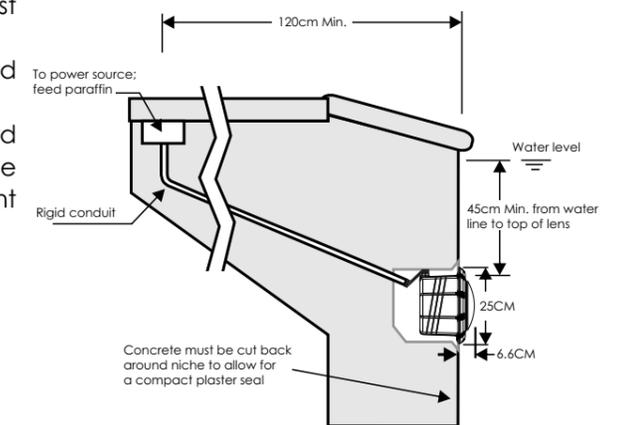

Figure 1.
A) Preparatory steps which must be completed by the electrician before light is installed, see Figure 1.
- a) The junction box, or the low voltage transformer for 12 volt Underwater Light model is to be located at least 120CM from the edge of the pool, see Figure 1.
- e) The mounting bracket must be properly installed so that the top edge of the Underwater Light lens is at least 45CM below the surface of the water in the pool, see Figure 1.
- 1) Locate position on a vertical wall where light is to be installed. The top of the light lens must be 45CM below normal water level, see Figure 1.